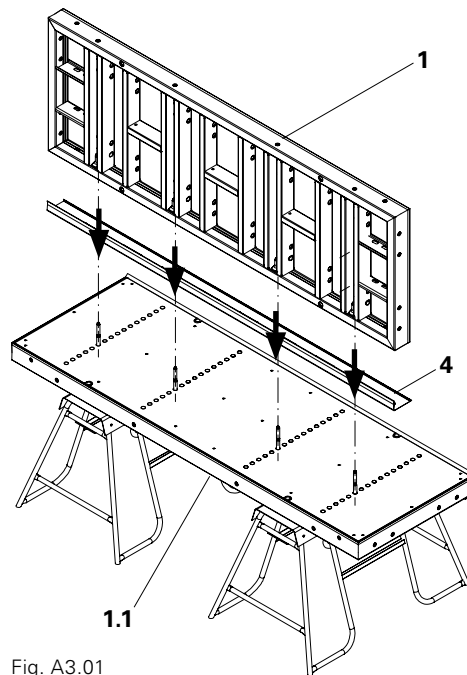

Fig. A3.01
1. Attach Chamfer Strip (4) to the front side.
2. Place second Column Panel TRS90 / TRS120 (1) on the first Column Panel TRS90 / TRS120 (1.1). (Fig. A3.01)
1. Attach Chamfer Strip (4) on the front side.